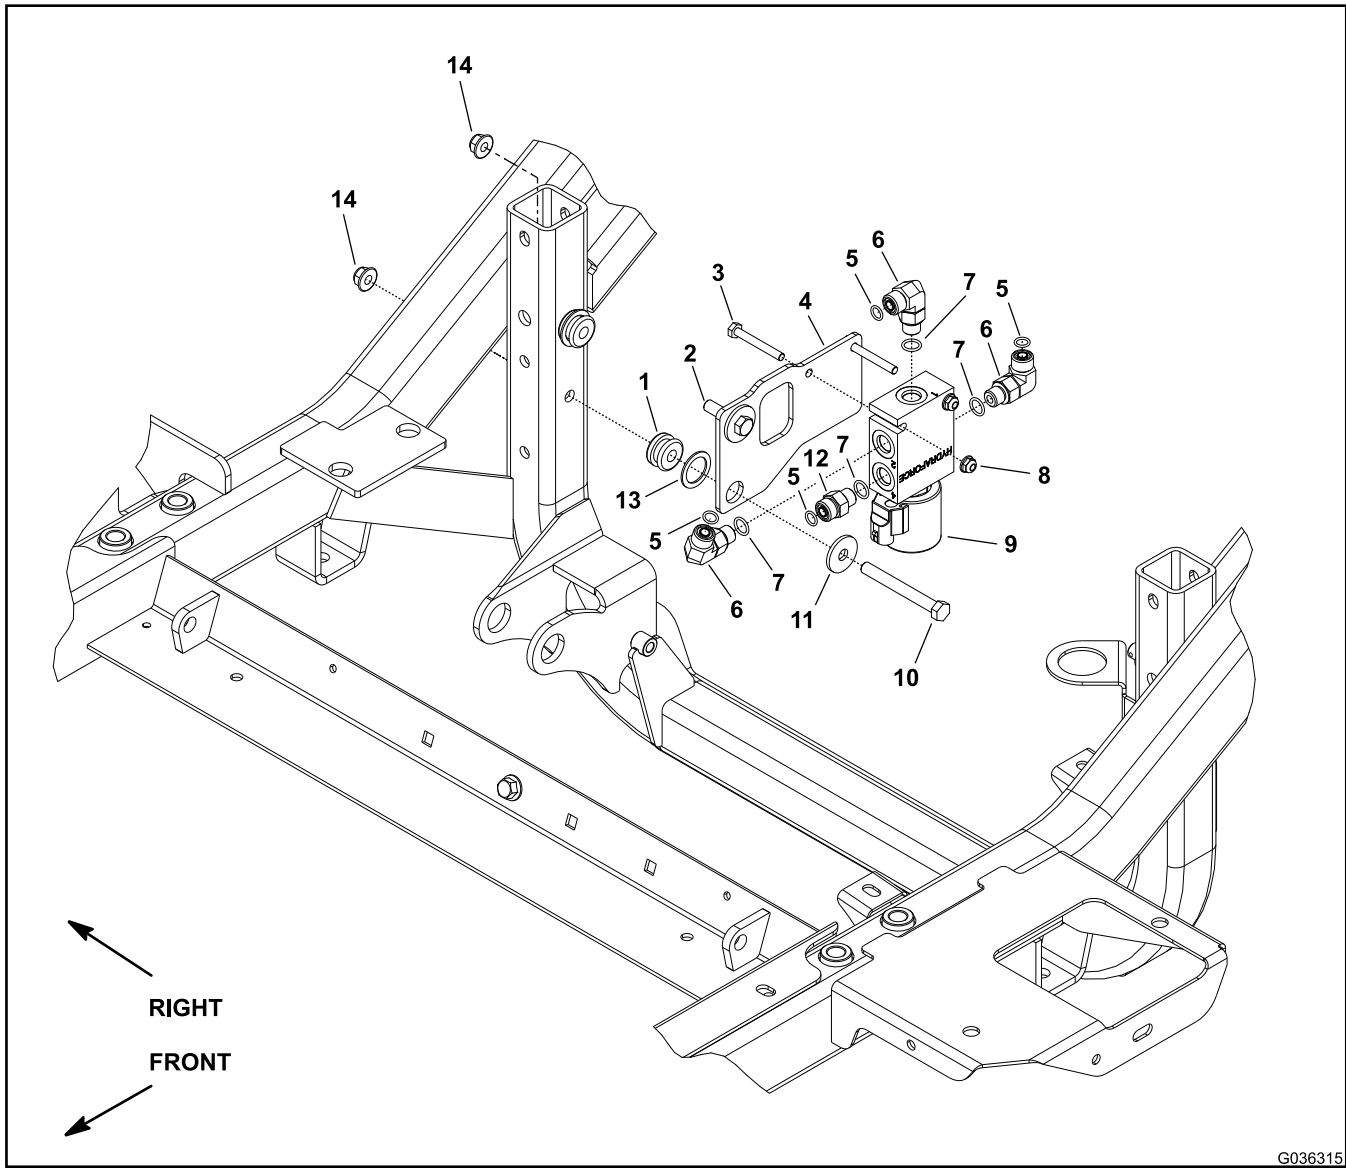

Figure 149
10. Remove the 2 screws (item 3 in Figure 149) and 2 flange nuts that secure the steering selector manifold assembly to the mount plate. Remove the steering selector manifold assembly from the machine.
3. Secure the steering selector manifold assembly to the machine with 2 screws (item 3 in Figure 149) and 2 flange nuts.